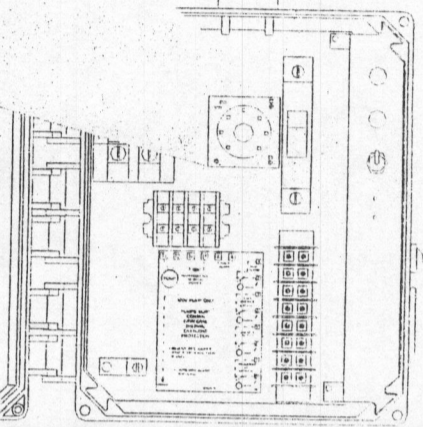

FIGURE 1 - Two float system
2. Determine your normal operating level, as illustrated in Figures 1 - 3.